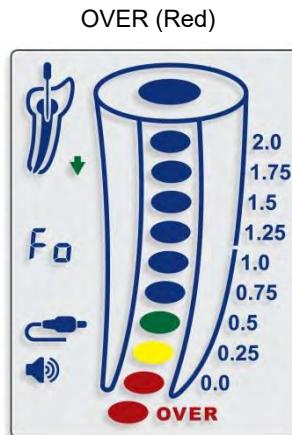

Fig. 11
- ⚠** The red **OVER** indication accompanied by frequent beeps indicates that the file tip have progressed beyond the foramen into the periapical region - 'Foramen over-instrumentation' (Fig. 11).